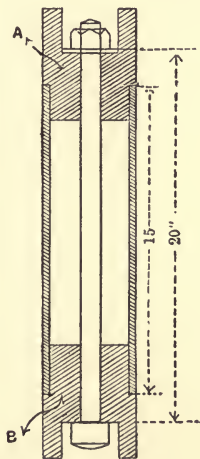

Fig. 3.
7. The two pieces *A* and *B*, shown in Fig. 3, fit freely into the two ends of a straight tube and are drawn together by a bolt and nut. The section of this tubular distance piece is the same as that of the bolt, and they are constructed out of the same material. The nut is initially screwed up so that the tension in the bolt is 5 tons. The pieces *A* and *B* are then subjected to forces of 3 tons tending to pull them apart. Calculate the resulting tension set up in the bolt.